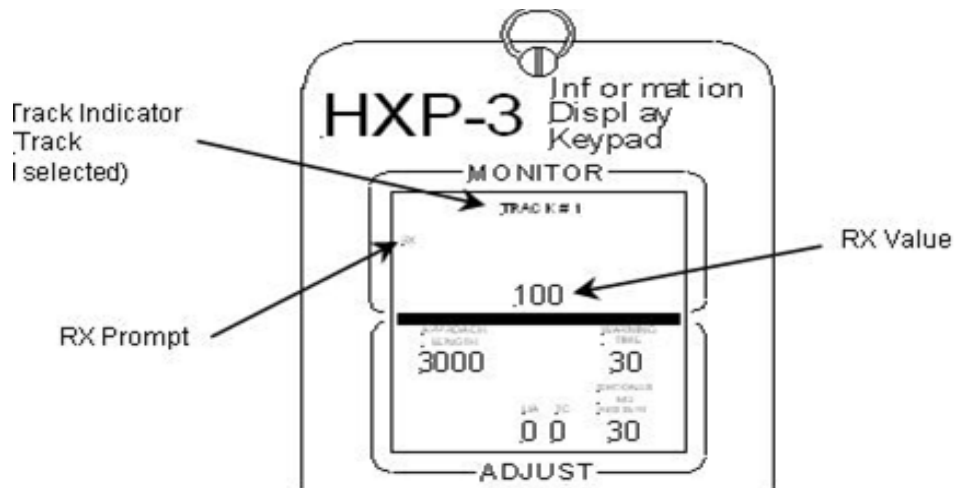

Figure 2 – HXP-3 Information Display – RX Prompt
7.2 Press the MONITOR SEL button until the RX prompt and value are displayed as shown in figure 2.